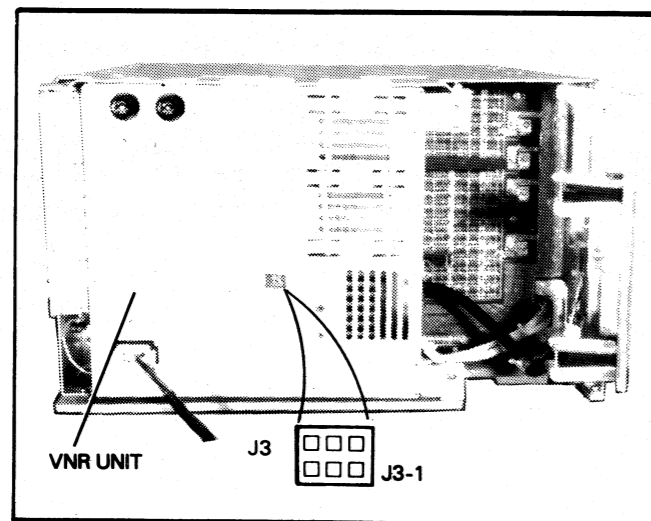

Figure 6.9 Jack 3
- b. Check the BAT+ voltage at jack J3-1 (see Figure 6.9).
- If BAT+ is NOT greater than 12V, then measure the voltage DIFFERENCE between J3-5 and J3-6 (see Figure 6.9). If it is greater than one volt, replace the battery; otherwise, replace the VNR unit.